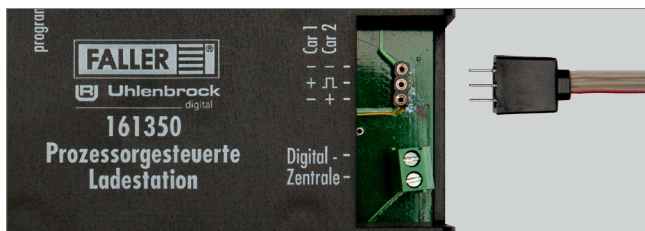

Fig. 5: Connecting the charging cable to the charging unit
- Insert the plug located at one end of the charging cable into the socket of the charging unit, see Fig. 5.